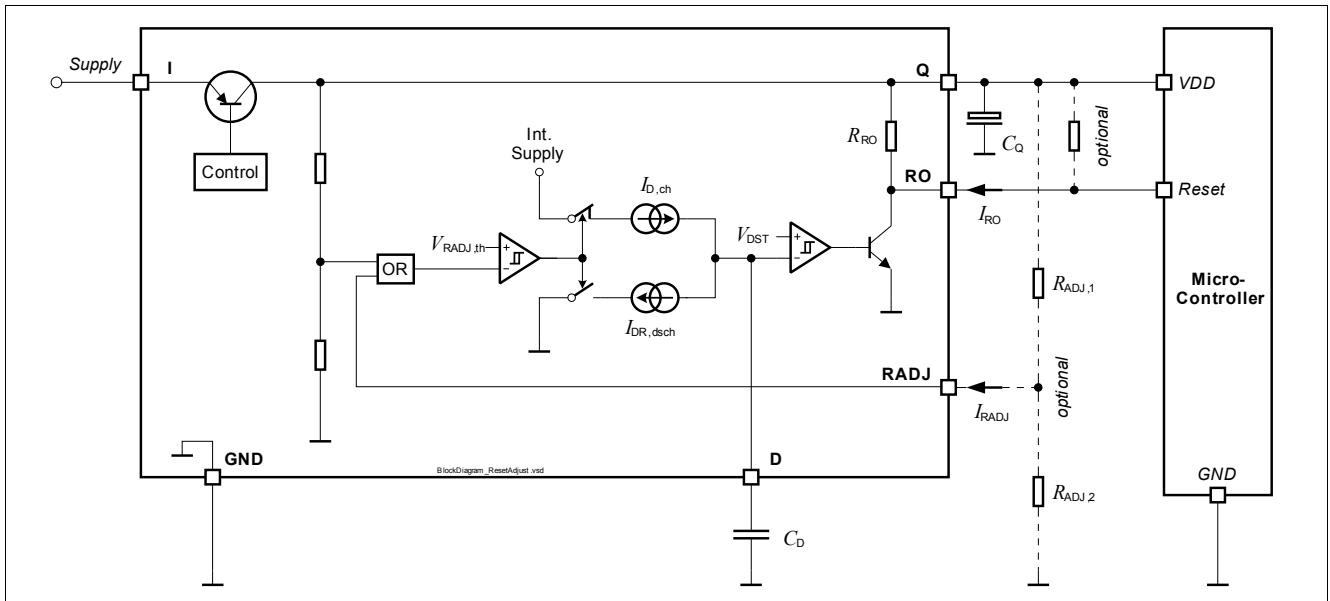

Figure 6 Block Diagram Reset Circuit
- $R_{ADJ,1}$ ,  $R_{ADJ,2}$ : Resistors of the external voltage divider, see Figure 6.
all voltages with respect to ground, direction of currents as shown in **Figure 6** (unless otherwise specified).